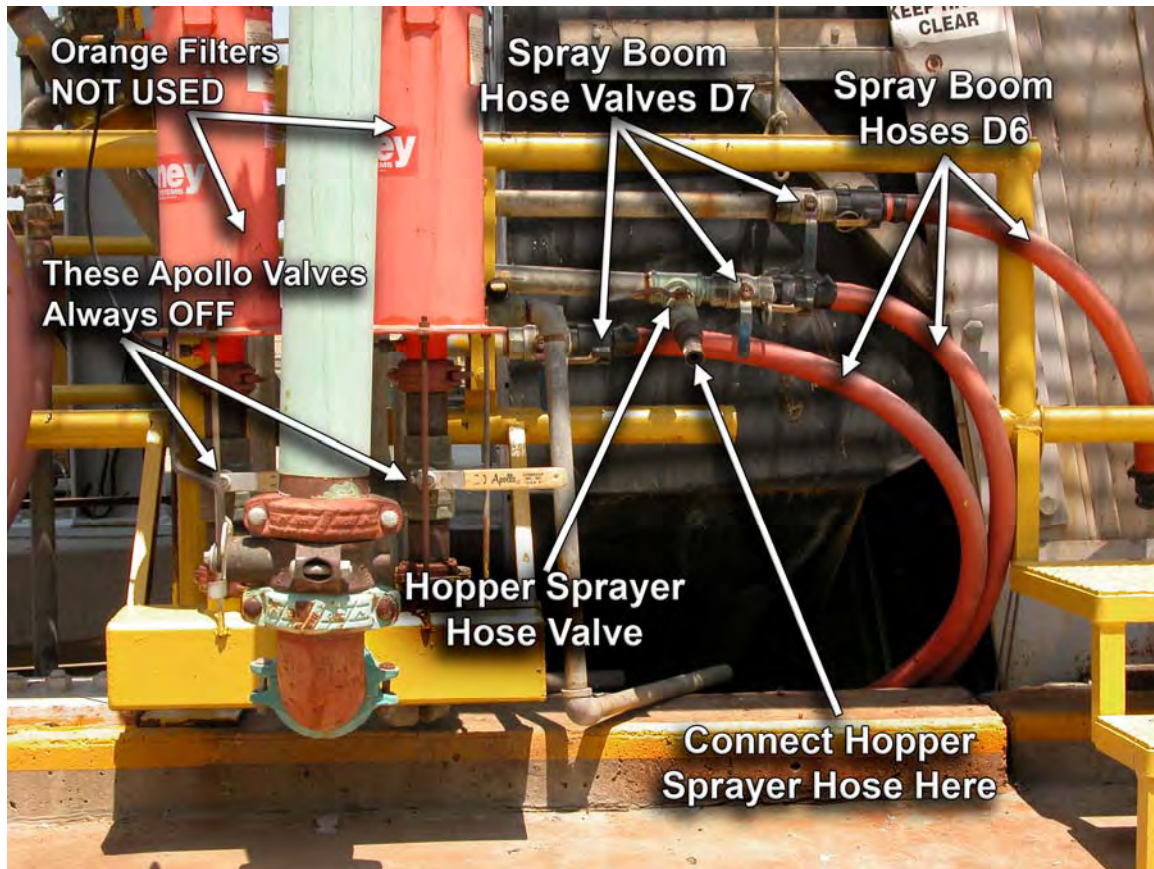
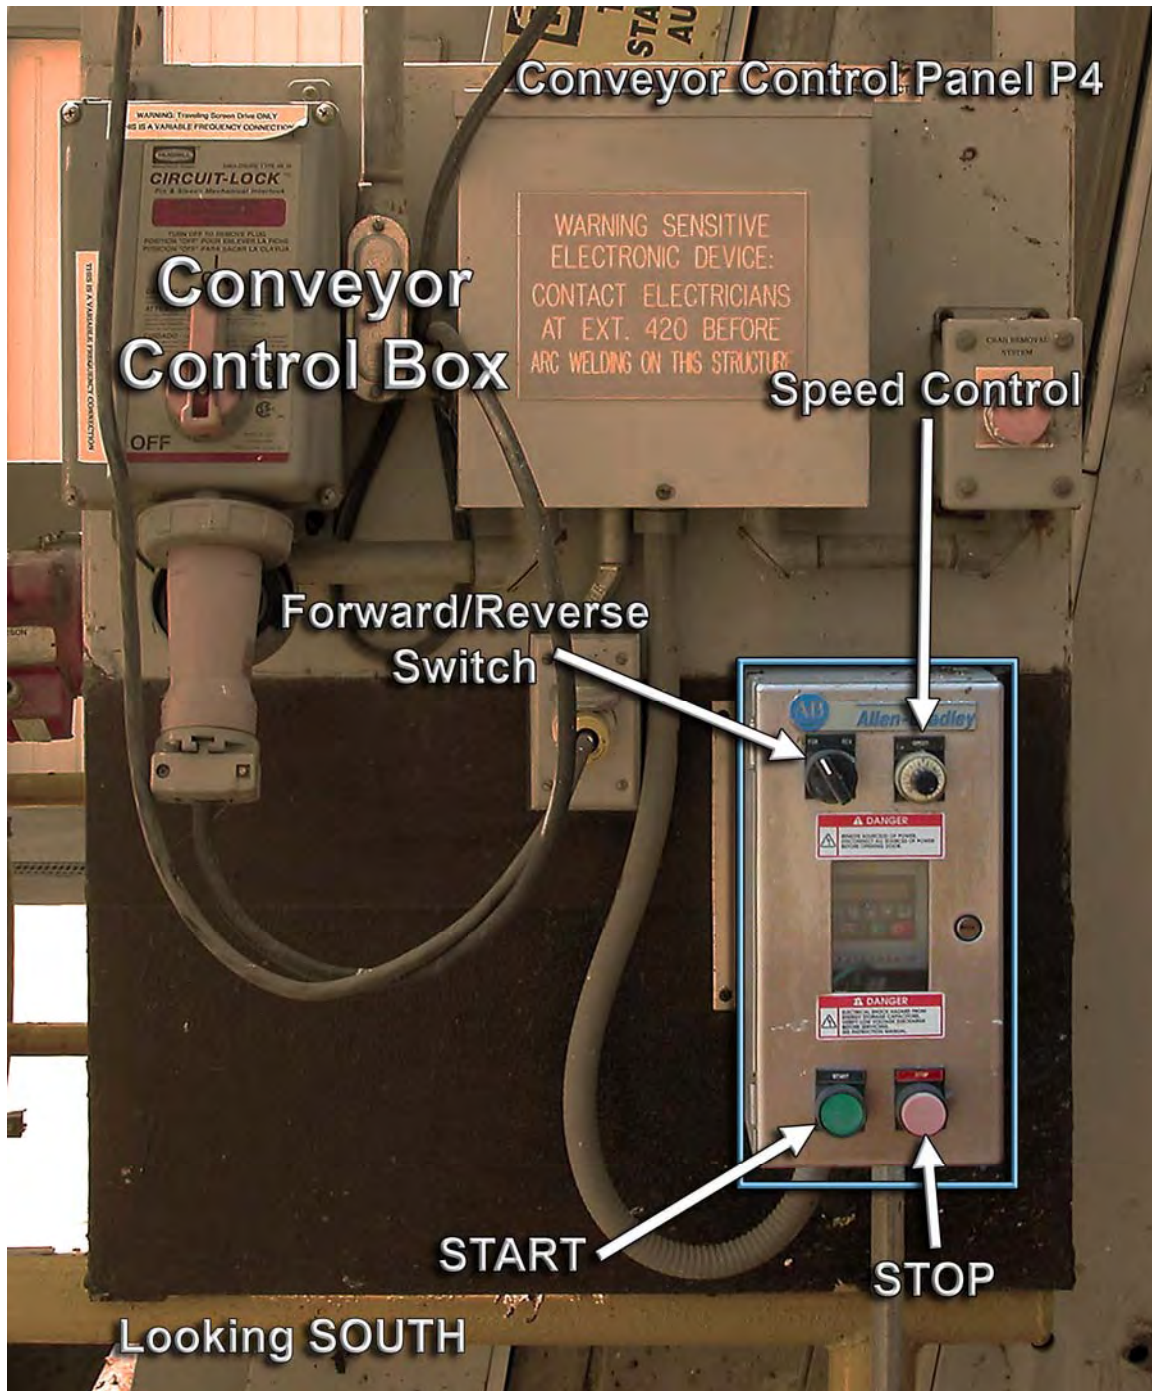

FIGURE 18.—North facing, close-up view of Spray Boom Hoses D6, Spray Boom Hose Valves D7, and Hopper Sprayer Hose and Valve.
FIGURE 20.—Conveyor Control Panel P4 on the north side of the Debris Removal System (DRS).
Open Spray Boom Hose Valves D7 upstream of each of the three red Spray Boom Hoses D6. Open the Hopper Sprayer Hose Valve and the Hopper Sprayer Hose to start water flow to the Spray Booms and Hopper Sprayers (Figure 18). Adjust the incoming water pressure to the Spray Booms by opening or closing the Larger Line DynaQuip Valve D4 just upstream of the green water filter cylinder. The Smaller Line Apollo Valve D5 must always remain partially open so that Filter D3 works properly. The pressure gauge upstream of Filter D3 should read around 40 psi, and the difference in pressure between the two pressure gauges before and after the filter (see Figures 10b
and 10c) should be 10 psi or less. The flow of water to each of the three Spray Booms can be adjusted at the Spray Boom Hose Valves D7 (Figures 10a and 18), and the Hopper Sprayer Nozzle flow can be adjusted using the Hopper Sprayer Hose Valve (Figure 18).
Start Conveyor B after Traveling Screen A and Guide Plate A1 are positioned properly and the Spray Booms and Hopper Sprayers are operating, turn on the Conveyor at Conveyor Control Panel P4 (Figure 20). Check again to make sure the conveyor belt and all moving parts are wetted with the internal spray nozzles to reduce friction and avoid misalignment. Do not operate the conveyor belt dry.
Start the wetted conveyor belt by turning the **Speed Control** dial to a setting of 5.5, (Figure 20) and then press the **START** switch button. Temporarily shut OFF the water to the Spray Booms at the Spray Boom Valves (Figure 18) and inspect the alignment of the conveyor belt terminal end in the Hopper while the belt is rotating. If the Conveyor is out of alignment, call the Reclamation Facilities Manager and shut down the DRS.
Traveling Screen will not lower or rise from the support structure.	<ol style="list-style-type: none"> (1) Remove the screen retaining pins (2) Check Emergency Shut-off Switches on the Traveling Screen Control Panel P2 and the Conveyor Control Panel P4 (pull for run/push for stop). (3) Check Circuit Breaker 15 on the PF Panel in the Circuit Breaker Panel P1 (Figure 3a–3c). (4) Go to Traveling Screen Control Panel P2 (Figure 20). Push the STOP switch under 5-ton Hoist and then press the Power ON switch button. Then press the Raise Screen or Lower Screen Switches under the 5-ton Hoist control column.
Traveling Screen does not rotate	<ol style="list-style-type: none"> (1) Go to Traveling Screen Control Panel P2.(Figure 20). (2) Turn Forward/Reverse Switch to forward or reverse. (3) Traveling Screen Power OFF switch may be tripped. Push Power ON switch button. (4) Push the Error/Reset Switch button. Resetting is not normally needed; if required more than once daily have the screen checked.
After water is diverted to the Secondary Channel, close the three Spray Boom hose valves (Figure 18) and close the valve to the garden hose that delivers water to the Hopper Spray Nozzles. Disconnect the cam locks that attach the three hoses to the three Spray Booms on the Traveling Screen.
Push the STOP button on the Conveyor Control Panel P4 (Figure 20) to stop the rotation of the conveyor.